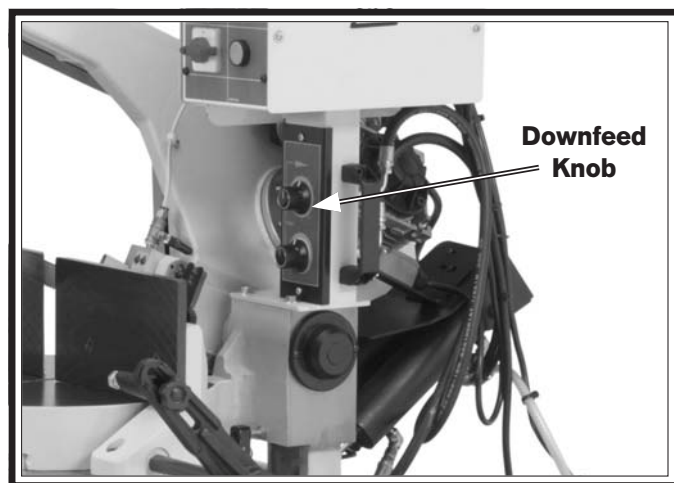

Figure 12. Downfeed valve location.
3. Open the downfeed knob (see **Figure 12**) and allow the headstock to travel all the way down. If the blade contacts the machine base, adjust the downfeed stop bolt as described in **Downfeed Stop Bolt**, on **Page 39**.